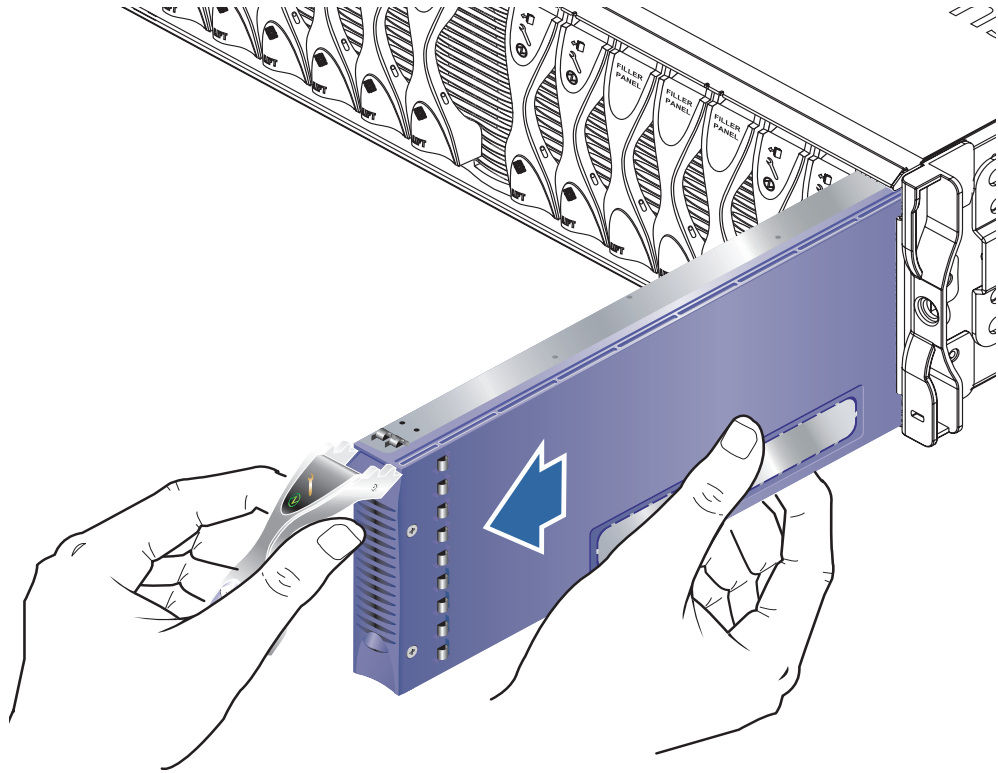

FIGURE 12-4 Removing the Blade or Filler Panel
4. Pull the lever to remove the filler panel from the system chassis (FIGURE 12-4).